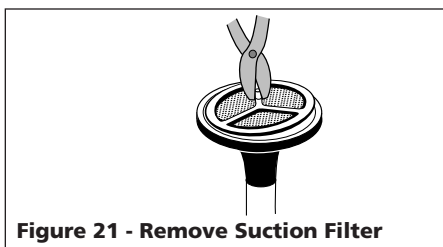

Figure 21 - Remove Suction Filter
6. While fluid is circulating, wipe Suction Assembly and By-Pass Tube with a rag. Also, remove Suction Filter with pliers (See Figure 21).